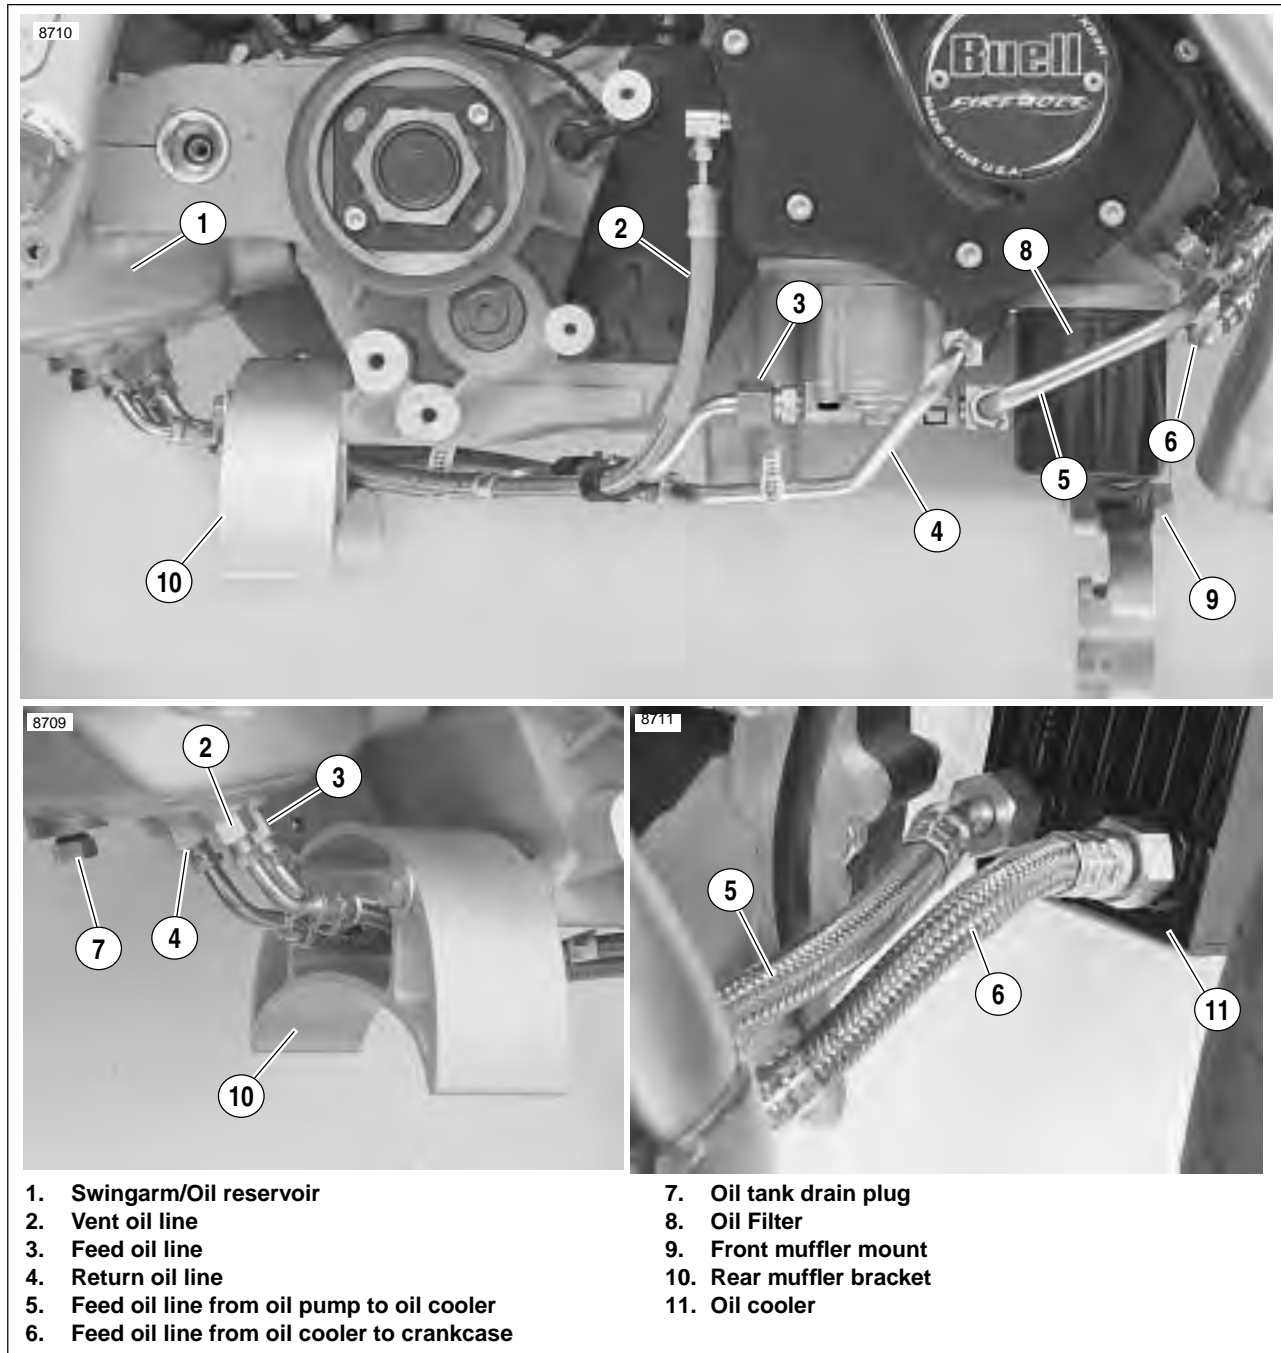

Figure 3-48. Oil Lines and Connections
20. See Figure 3-48. Install the return, feed and vent oil lines starting at the swingarm/oil reservoir and working towards the front of the vehicle. Leave all oil line fittings loose at this time.